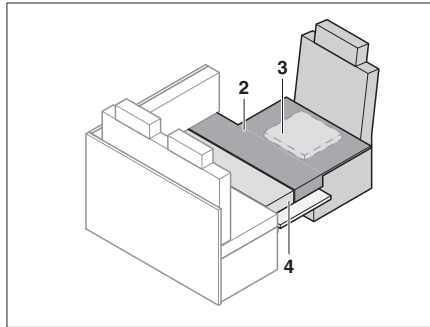

Fig. 191 After conversion
- Lay on the additional cushion as shown in Fig. 191.